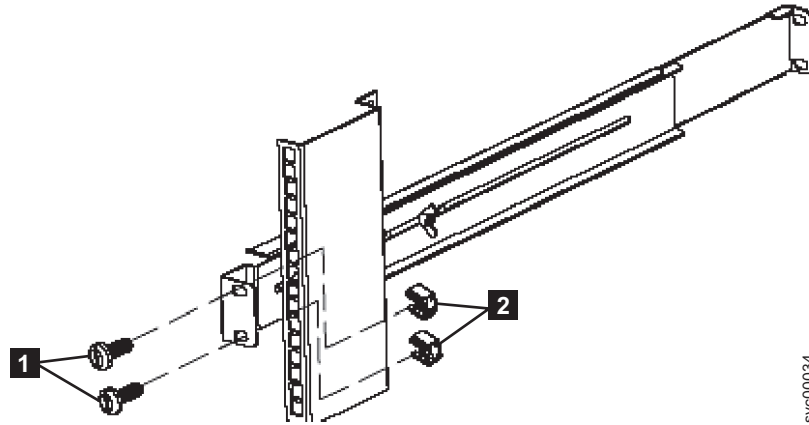

Figure 317. Securing the rear rail on the 2145 UPS-1U
6. Using two M6 × 10 screws (**1** in Figure 317 on page 327) and two clip nuts **2**, attach the rail to the rear of the rack. The customer's rack might be different than the one shown here, and if so, might require different clip nuts or fasteners.